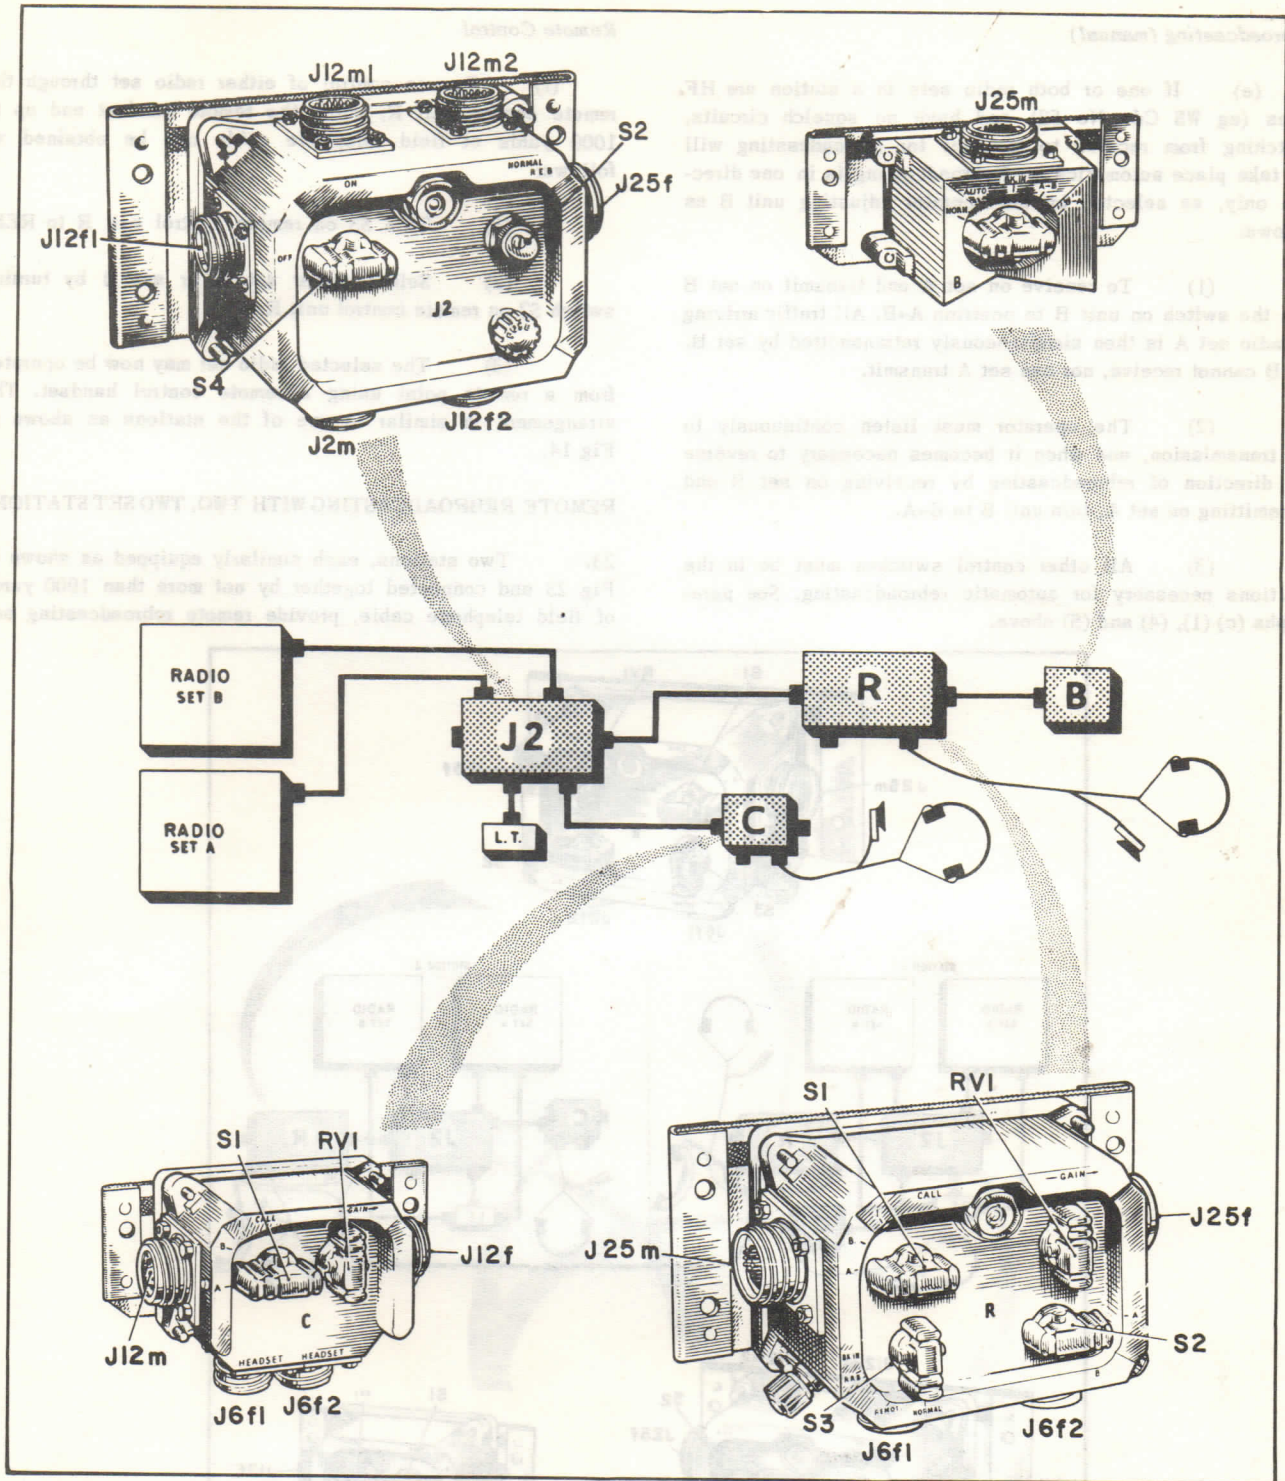

FIG 22 LOCAL REBROADCASTING
(1) Switch the harness on by turning switch S4 on box J2 to ON. Switch on the IC amplifier in the A set as detailed in the Operating Instructions. The A set is the one connected to the top left hand plug on the J2 box.
(2) Referring to Fig 22, turn switch S1 on unit C to I. On unit R turn switch S1 to I and switch S3 to NORMAL. On box J2, switch S2 remains set to REB. On unit B set the switch to NORM. Intercommunication is now possible between the operators at control units C and R.
(3) To call operators on the harness turn switch S1 on control unit C or R to CALL, then let it return to I.
(4) Adjust the GAIN controls RV1 on control units C and R.
(1) Switch S4 on box J2 to ON. Tune the radio sets as instructed in the Operating Instructions for the sets. Determine which is the A and which is the B set. The A set is connected to the top left hand plug on the J2 box, and the B set to the top right hand plug.
(2) Referring to Fig 22, turn switch S1 on unit C to position A or B according to which radio set is to be used. On control unit R turn switch S1 to the same set position, turn switch S3 to NORMAL, and disregard switch S2. On junction box J2, switch S2 is pre-set to REB. Turn the switch on unit B to NORM.
(3) Use headsets and microphones connected to units C and R. Adjust gain controls on units C and R.